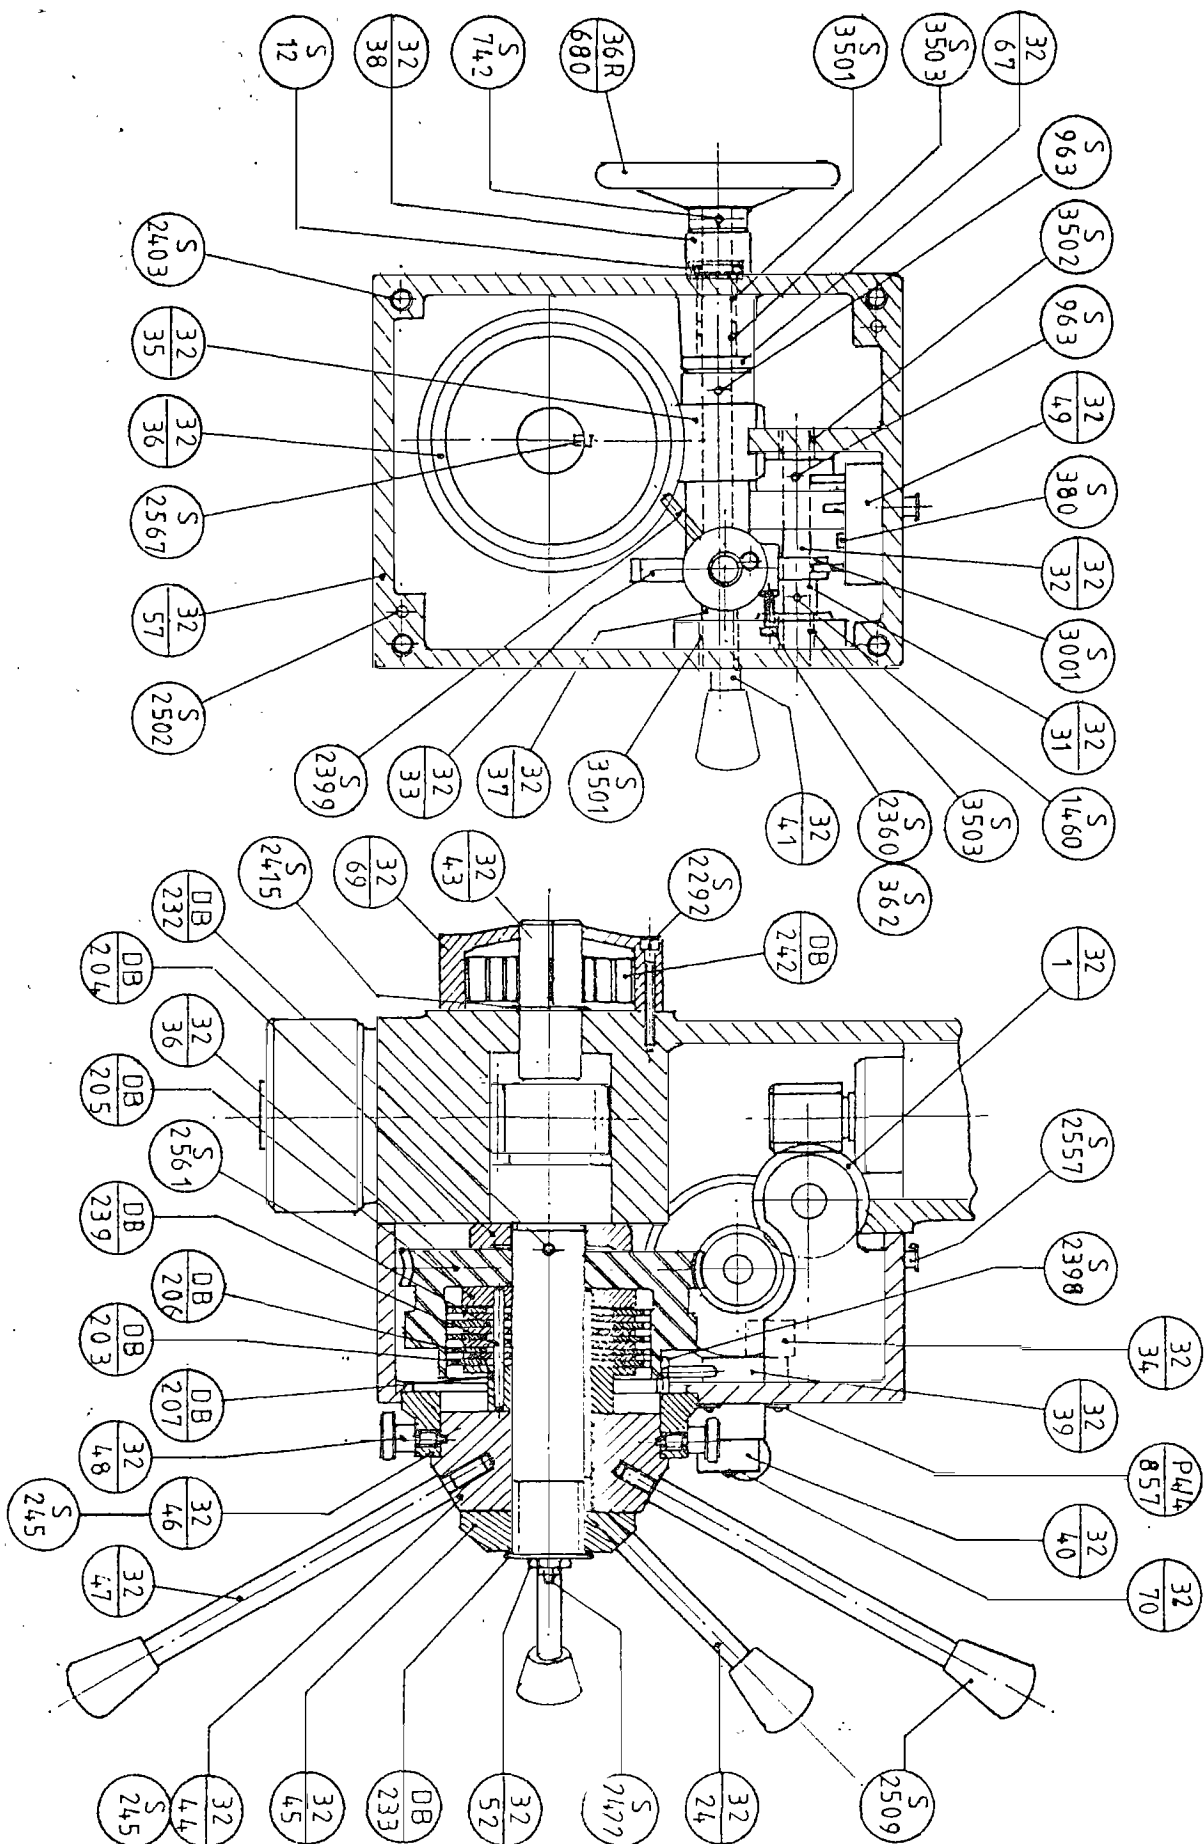

FIG. 5
- b) keep the splined table (25) inclined on one side by letting it rest on the guides of the cross-piece (11);
- c) place the gib (10) with its notches outwards;
- d) tighten screws (23) inserting them in the gib notches;
- e) tighten the nuts (22);
- f) assemble the central screw bracket (9)
5) DISASSEMBLY AND ASSEMBLY OF THE CROSS-PIECE (fig. 5)